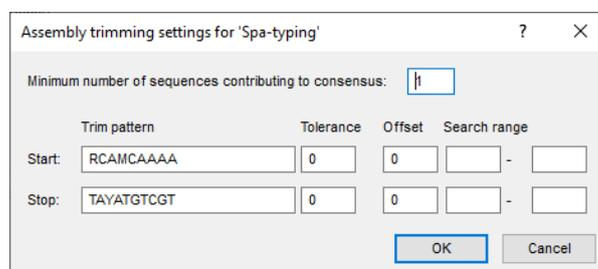

Figure 2: The *Assembly trimming settings* dialog box.
10. Press **<Trimming settings>** to pop up the *Assembly trimming settings* dialog box (see Figure 2).